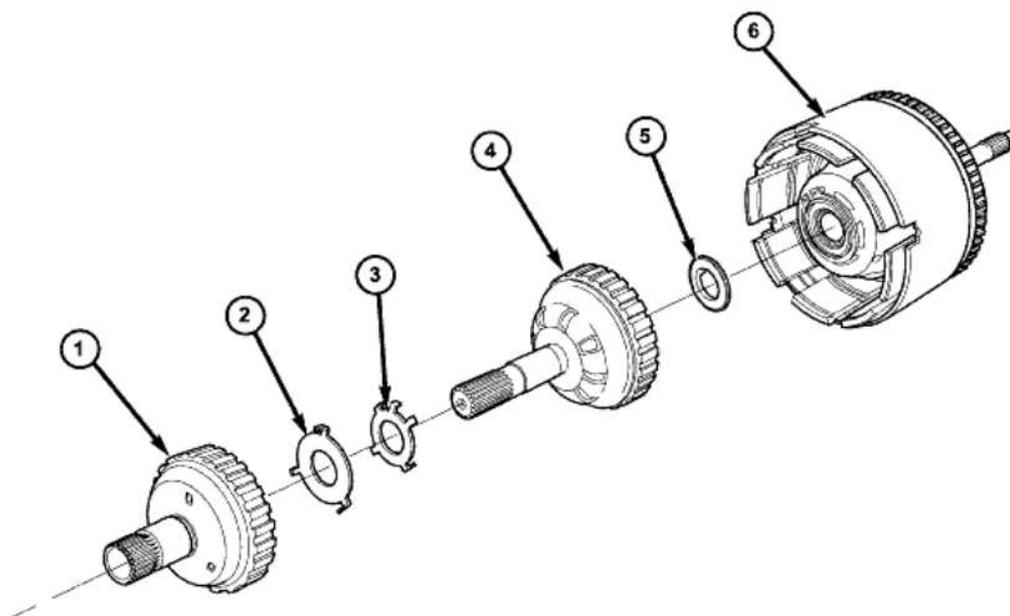

Fig. 295: Removing/Installing OD & UD Shafts, Thrust Washer & Plate, & #2 Needle Bearing
49. Refer to **Fig. 295** as necessary when performing the following steps .